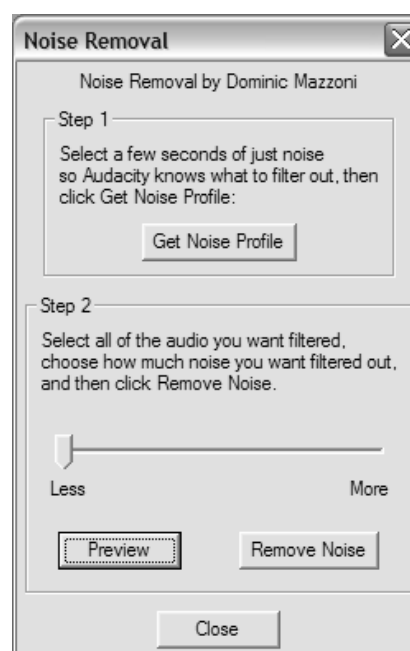

Figure 7: Noise Removal Window
2. Select “Noise Removal” from the “Effect” drop down menu to bring up the “Noise Removal” window. (See Figure 7)